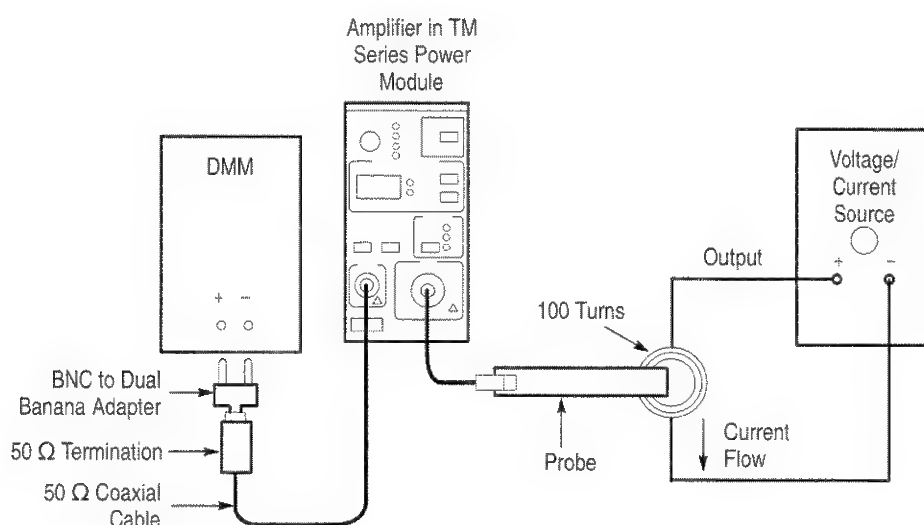

Figure 5–4: DC Accuracy Test Setup for A6302/A6302XL: 100 mA to 5 A
5. Clamp the current probe around the 100 turn current loop. Refer to Figure 5–4. Verify that the arrow-shaped indicator on the probe points away from the current source.